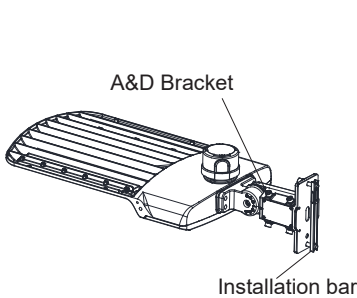

Figure 15
Step 1: Remove the four bolts from ADM bracket, remove the four rubber plugs from installation bar, put the four rubber plugs on the place where the four bolts were previously placed on the bracket for waterproof purpose (Figure 15)